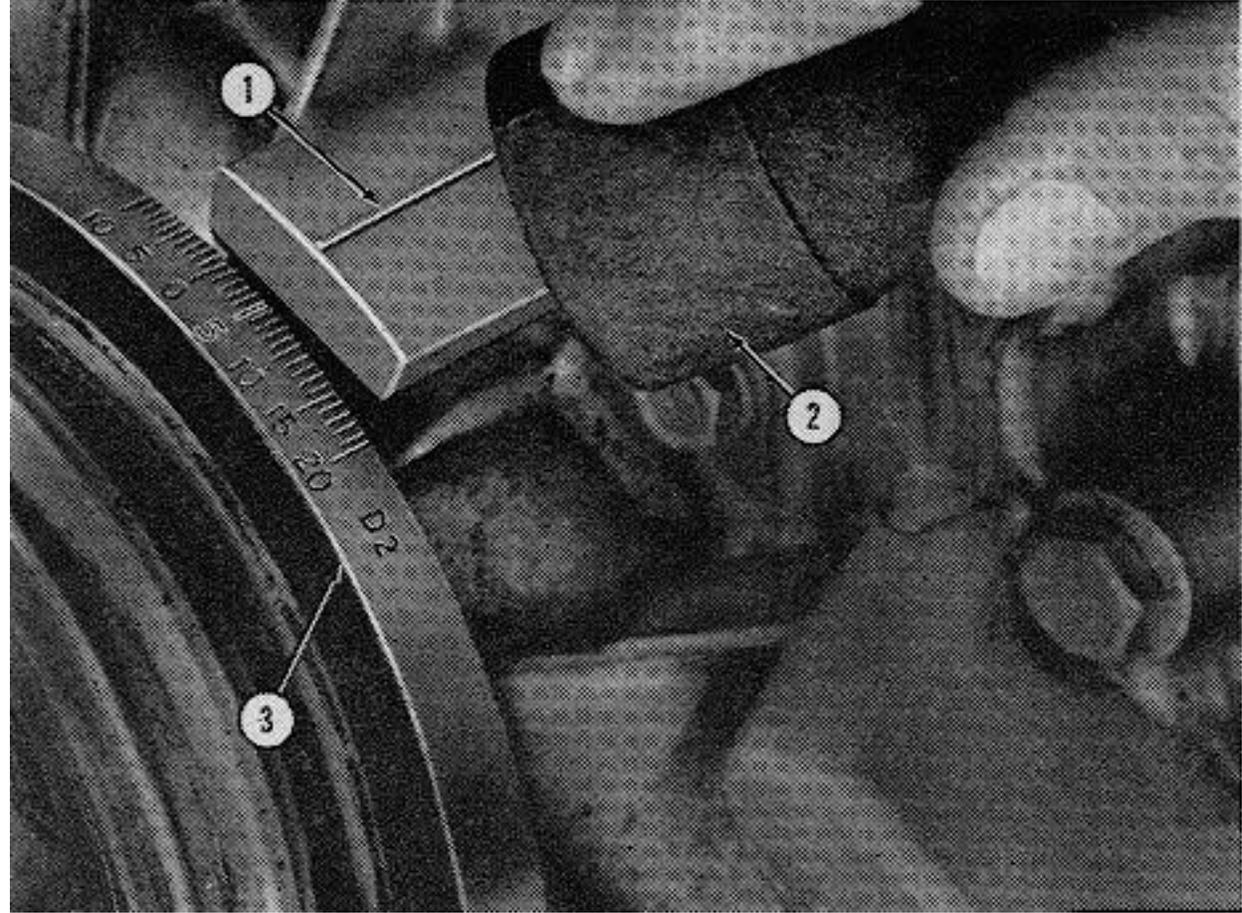
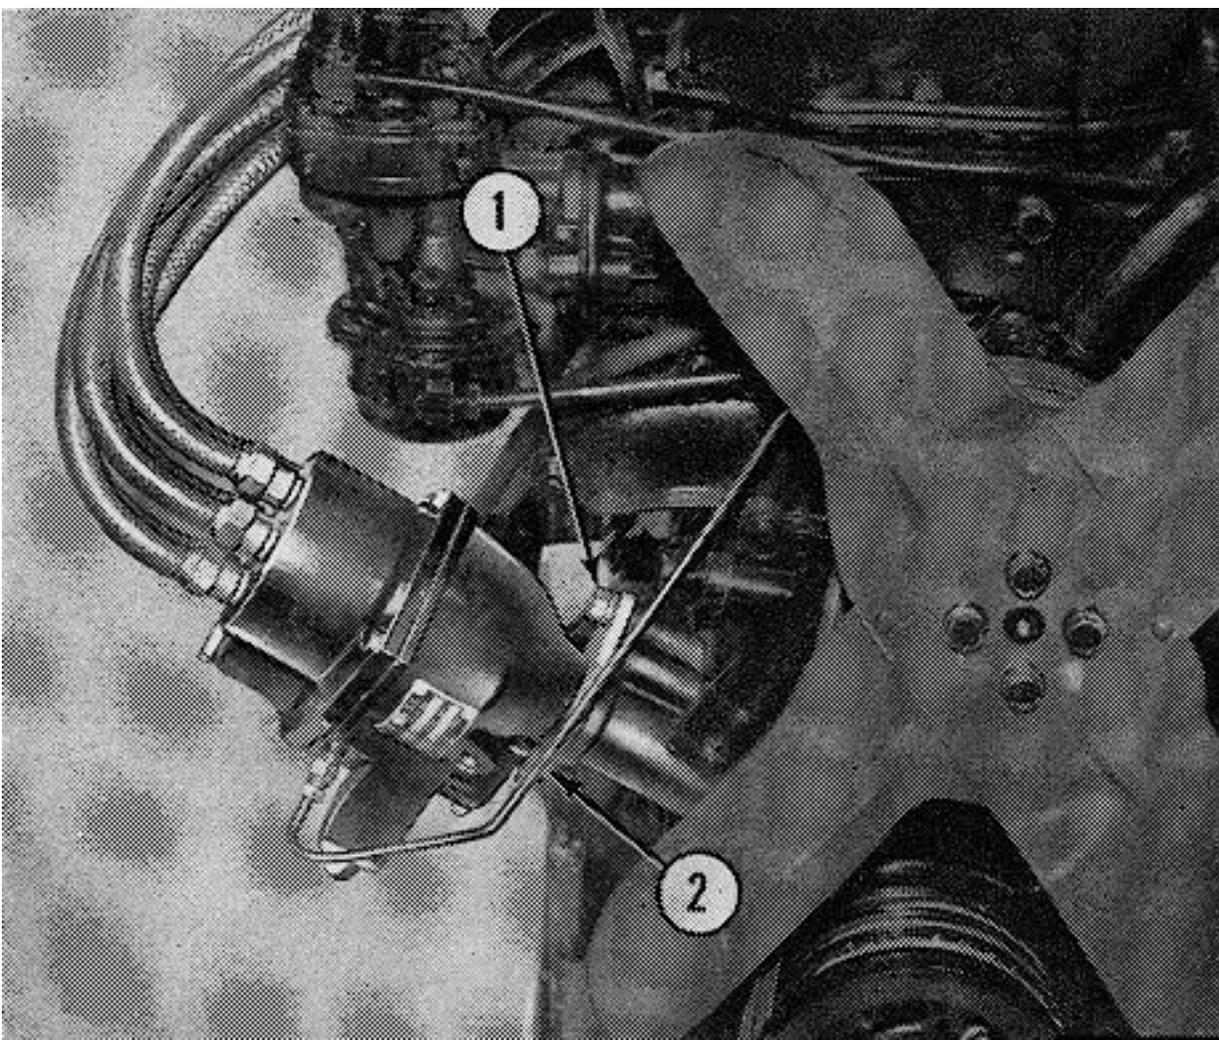

FIG. C-10—TIMING ENGINE WITH LIGHT
FIG. C-11—IGNITOR ADJUST
- e. Ignition. timing should be set at 5 degrees BTC as shown in Fig. C-10. Timing may be changed by loosening the ignitor adjusting nut, as shown in Fig. C-11.
Turn the ignitor clockwise to advance the ignition timing and counterclockwise to retard the timing. Tighten the adjusting nut securely. In some cases where the ignition timing has to be considerably changed, it may be necessary to loosen the mounting bolt as shown in Fig. C-11 that secures the distributor advance plate to the ignitor housing.